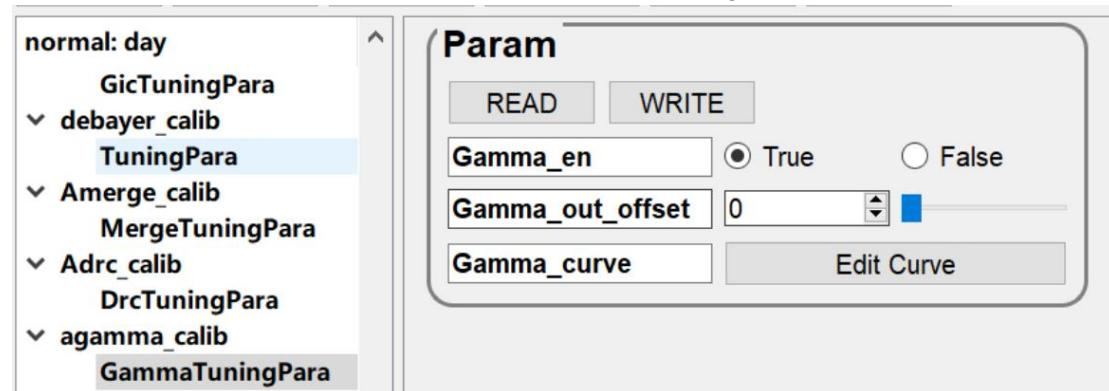

Figure 5-4-1-1 Gamma UI
1. As shown in Figure 5-4-1-1, enter the GammaTuningPara page, and click the “Edit Curve” of the Gamma_Curve parameter to open the Gamma visual tuning UI
2. As shown in Figure 5-4-1-2, the Gamma visual tuning UI includes the following functions: